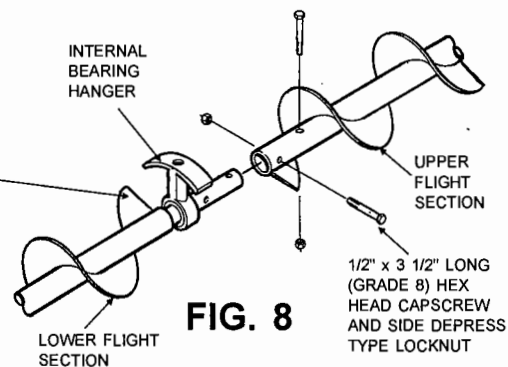

FIG. 8
- Step 2. Slide an internal bearing hanger over the end of the flight connecting stub on the middle auger section. Then slide the flight sections out of head auger section so the lower end of those flight sections can be connected to the flight section extending out of the middle of the auger section. Use two 1/2" x 3 1/2" long (grade 8) hex head capscrews and stover type locknuts. (See Fig. 8.) The bearing hanger can be allowed to rotate downward.